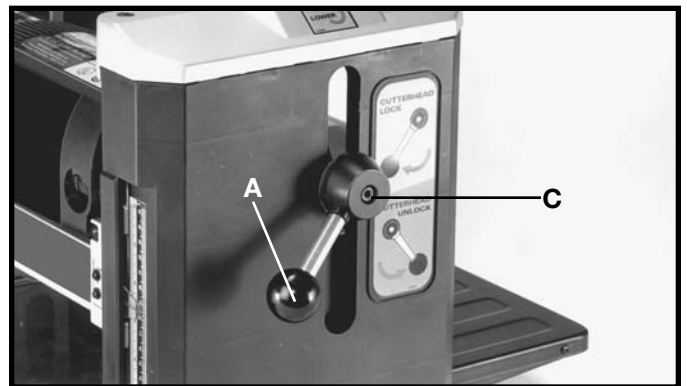

Fig. 6
2. Fasten cutterhead lock handle (A) Fig. 6, to the shaft using the M6x20mm special hex socket head screw (C), with wrench supplied.